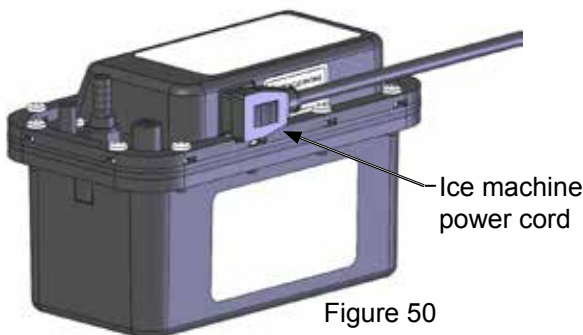

Figure 50
7. Disconnect the ice machine power cord from the drain pump (See Figure 50).